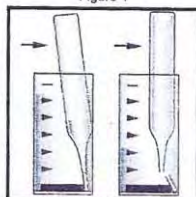

Figure 2
2. Place the CHEMet ampoule in the sample cup. Snap the tip by pressing the ampoule against the side of the cup. The ampoule will fill, leaving a small bubble to facilitate mixing (fig. 2).